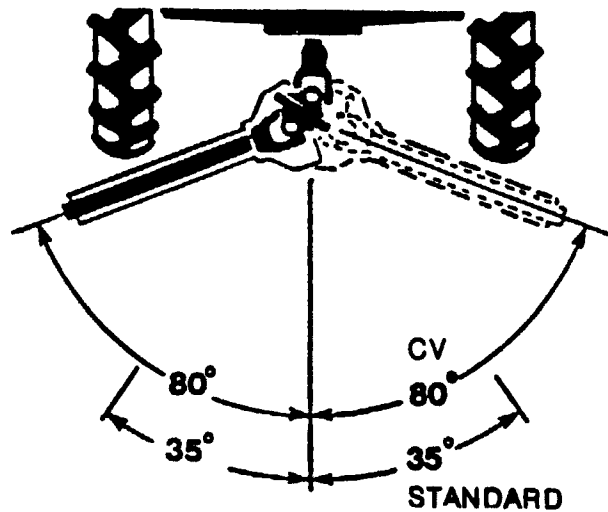

Figure 16 Driveline Angles
4. Although the driveline may be equipped with an optional constant velocity (CV) joint, turning angles are limited. (See Figure 16.) Do not exceed the working angles. Turn off the machine when making sharp turns.
The front universal is equipped with a constant velocity (CV) joint to allow for turning. Although the CV joint allows for sharper turns than a regular driveline, it does have some limitations. Refer to Figure 16.